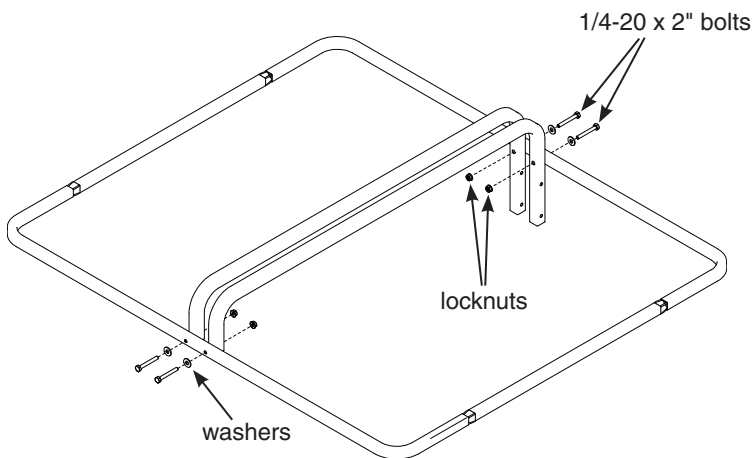

FIGURE 1
1. Insert the (2) rim spanners (A716) into the (2) roof rims (A715). This will form the canopy rim. **SEE FIGURE 1.**
2. Attach the center roof braces (A717) to the inside of assembled canopy rim using (4) provided 1/4-20 x 2" bolts, locknuts and 1/4" washers. **SEE FIGURE 1. DO NOT tighten all nut & bolt assemblies completely!**